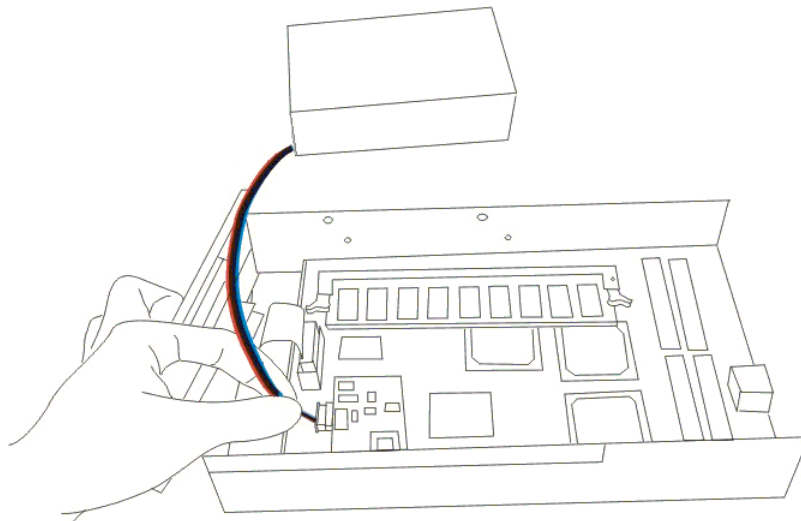

Figure 5-4: Disconnect the BBU Connector from the Charger Board
Step 2. Disconnect the BBU battery pack connector. Once the controller board has been removed, disconnect the failed BBU pack from the charger board connector. (See *Figure 5-4*)